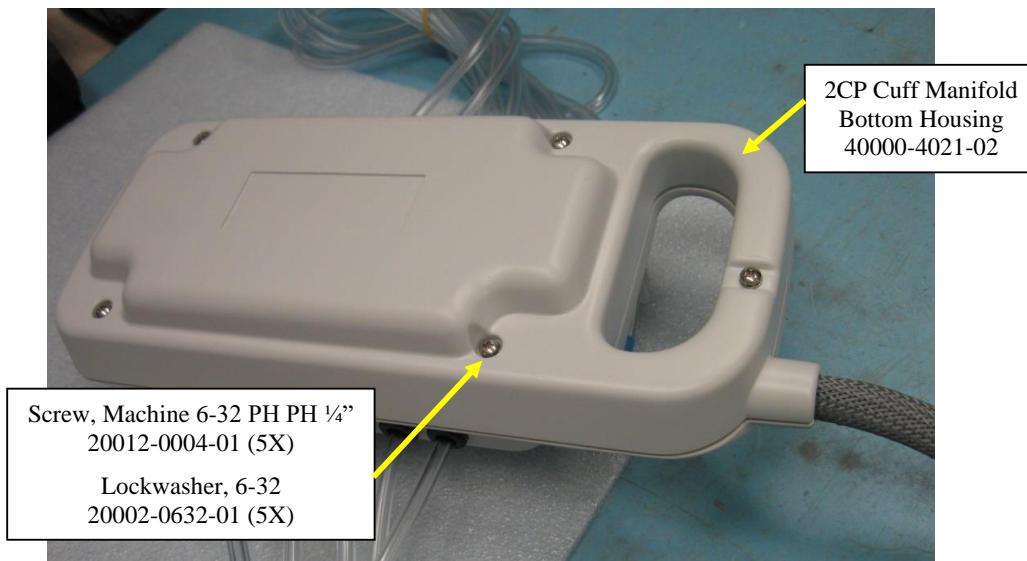

Figure 16
1. Lead the sleeved bundle out of the housing exit and assemble the bottom housing (40000-4021-02) to the top housing (40000-4021-01) using (5) 6-32 x ¼” screws (20012-0004-01) and (5) 6-32 lock washers (20002-0632-01) as shown in Figure 16.